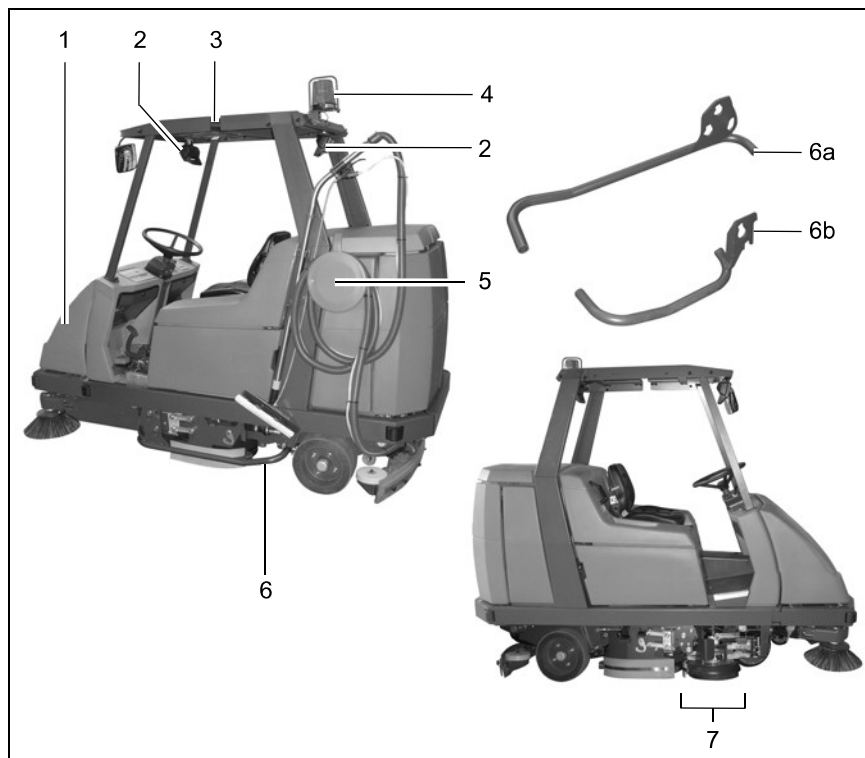

Fig. 16
3.1.4 Pre-sweep/Vacuum unit option (Fig. 16/1)
- **Pre-sweep/Vacuum unit (Fig. 16/1) (7581)**
- **Working lights (Fig. 16/2) (7584.02)**
- **Cab safety roof (Fig. 16/3) (7582)**
- **Flashing beacon (Fig. 16/4) (7585.02 Assembly on cab safety roof) (7585.10 Assembly on pole / without cab safety roof)**
- **Spraying/Vacuumping tool (Fig. 16/5)**
- **Hand-held vacuum cleaner (Fig. 16/5)**
- **Side collision protection (Fig. 16/6)**
- **Side scrubbing unit (Fig. 16/7) (7586.02)**